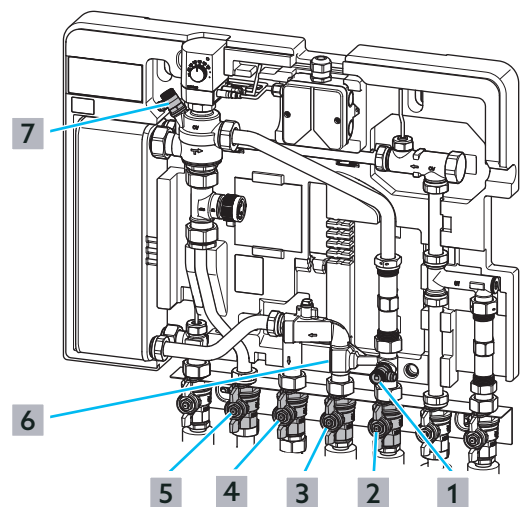

Fig. 23: Draining of the station (primary circuit)
- 6 Screw the valve (4) of the derivative temperature control set into the connection of the pipe.
- 7 Place the index ring (2) on the valve so that the index (3) is clearly visible from the front.
- 8 Align the rotating cap (1) so that the index points to 35 °C and place the rotating cap on the valve.
- 9 Slowly open the ball valves in the primary return ((2) in Fig. 23 on page 27) and the primary supply ((3) in Fig. 23 on page 27).
- 11 Open the vent valve ((7) in Fig. 23 on page 27) slightly.